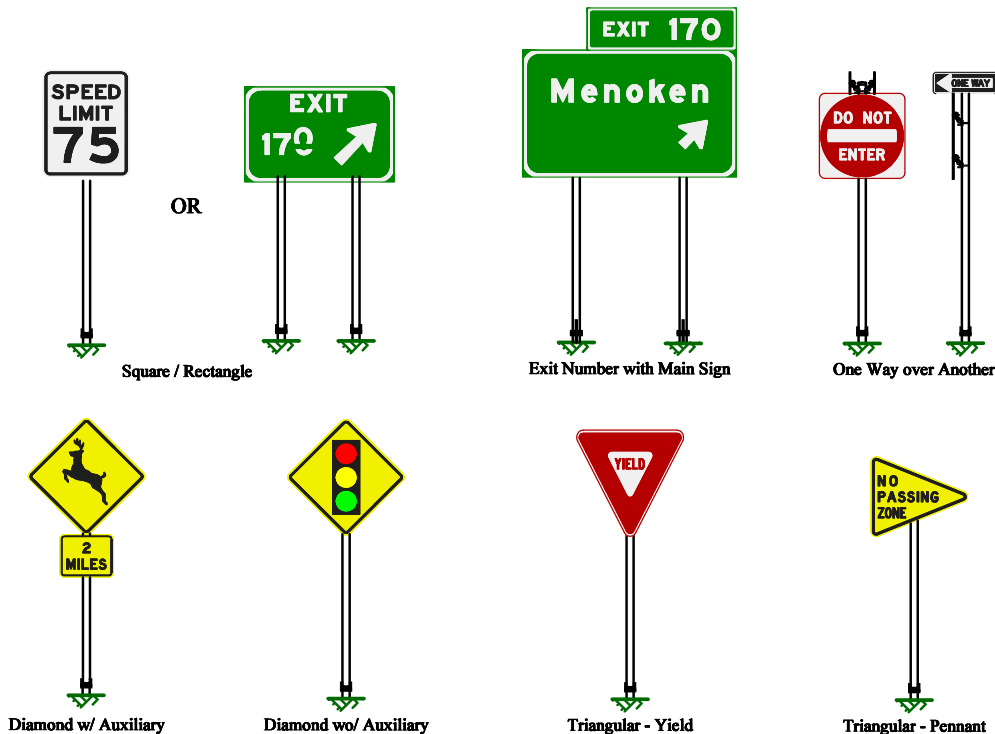

Figure 6 – Sign Types for Pipe/W-Shape Supports
- 28. **Sign Type:** Choose the type of sign you want to design (see Figure 6.)